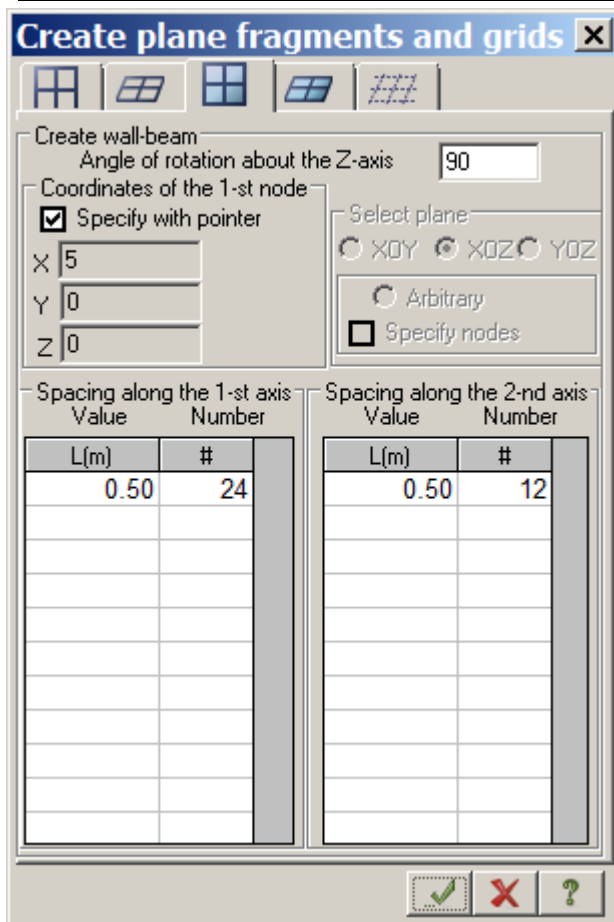

Figure 11.5 Create regular fragments and grids dialog box
- ⇒ In the **Create plane fragments and grids** dialog box (see Fig.11.5), specify **angle of rotation about the Z-axis** as equal to 90 degrees.